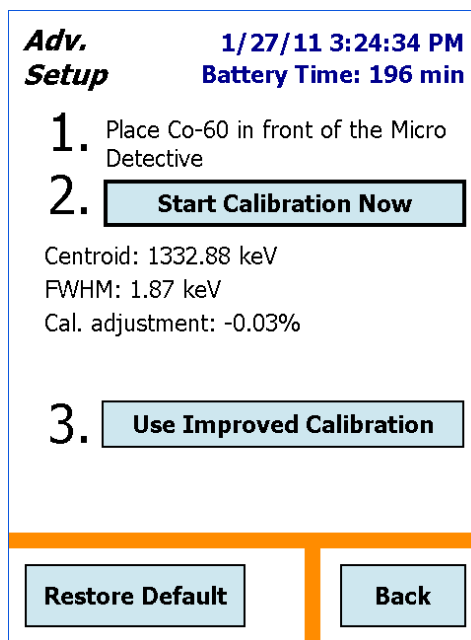

Figure 14. Apply New Calibration Selection.
- At the end of the calibration period, the **Use Improved Calibration** button will be displayed, along with the calibration and peak-shape indicators for the new measurement (Fig. 14). The choice is yours whether to use this new calibration or not. To accept it, tap **Use Improved Calibration**. Usually, the proposed change in calibration is of the order of the one shown in Fig. 14. If it is larger than 0.3%, the cause should be investigated (see Section 7.6).